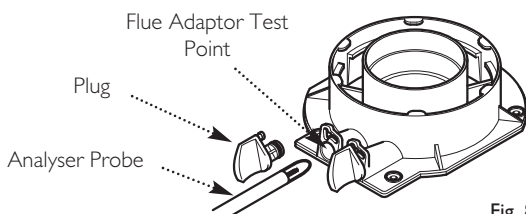

Fig. 80
7. Remove the plug from the flue sampling test point. Insert the analyser probe and allow sufficient time for the reading to settle (Fig. 80).